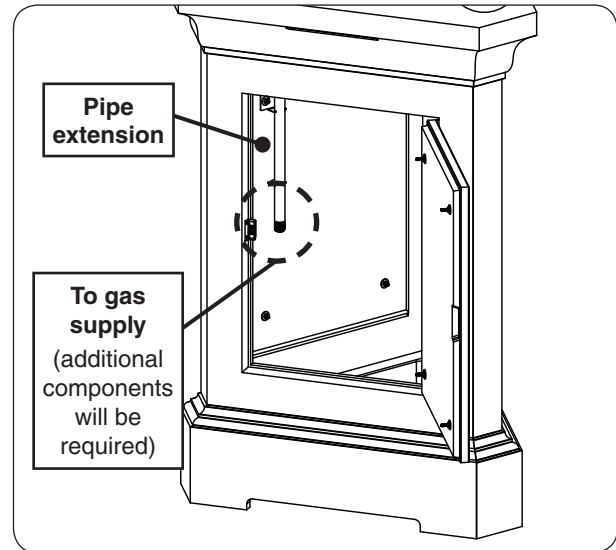

Fig. 30-1 Pipe extension detail
Your unit is equipped with a pipe extension that is to be routed to a gas supply appropriate for your setup. See Fig. 30-1. Additional gas components will be required. Consult a qualified professional service technician, and your local dealer. Follow the guidelines below.
2. Install the previously removed adapter to the end of the pipe extension (that is mounted to the interior wall of the pedestal) using a joint compound resistant to all gasses. Tighten securely. Reference Fig. 30-1.